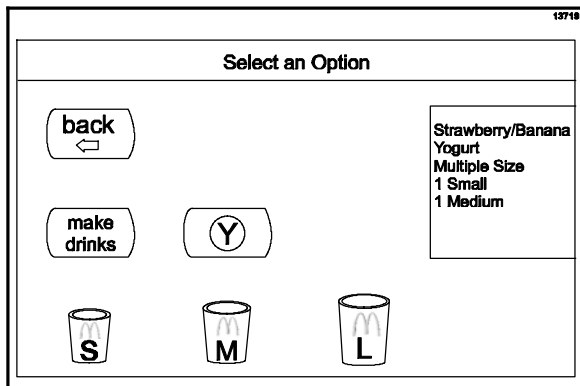

Figure 15
- Press the size key of the first drink size selection. The selected size will be added to the options list. Continue making size selections by pressing the appropriate size keys. (See Figure 15.)